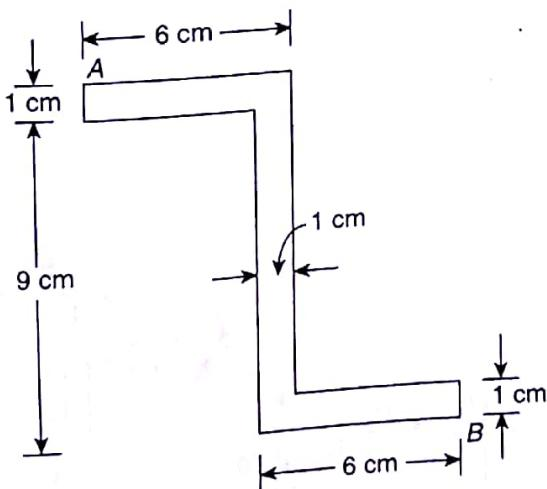

Figure 18.37 Practice Problem 1
1. Figure 18.37 shows Z-section of a beam simply supported over a span of 2 m. A vertical load of 2 kN acts at the centre of the beam and passes through the centroid of the section. Determine the resultant bending stress at points A and B .